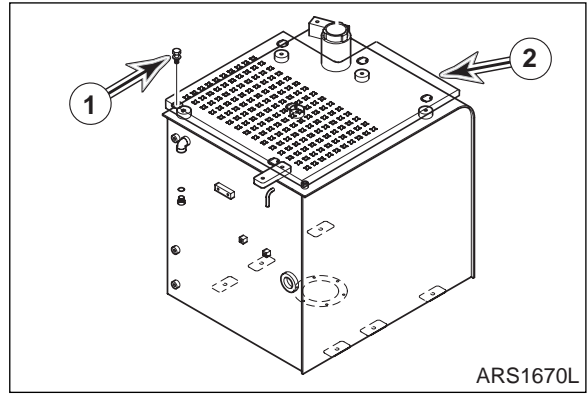

Figure 16
7. Install six bolts (1, Figure 16) and cover (2) on fuel tank.